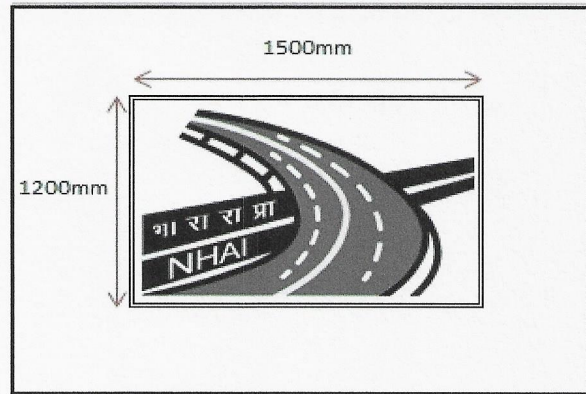

Figure-1
- (ii) In case RE wall is being constructed with blocks, it is often difficult to engrave or cast the NHAI logo onto the surface. In this situation, NHAI logo can be effectively painted on such RE blocks covering size as mentioned in Figure-1 below. Horizontal and Vertical distance of logo may be provided as specified.
5. **Size of NHAI Logo on RE Wall Panel** - While deriving size of logo RE panel size has been considered as 2 m X 1.6 m and in case the designed panel size varies the size of logo shown in the Figure-1 may be increased or decreased proportionately.